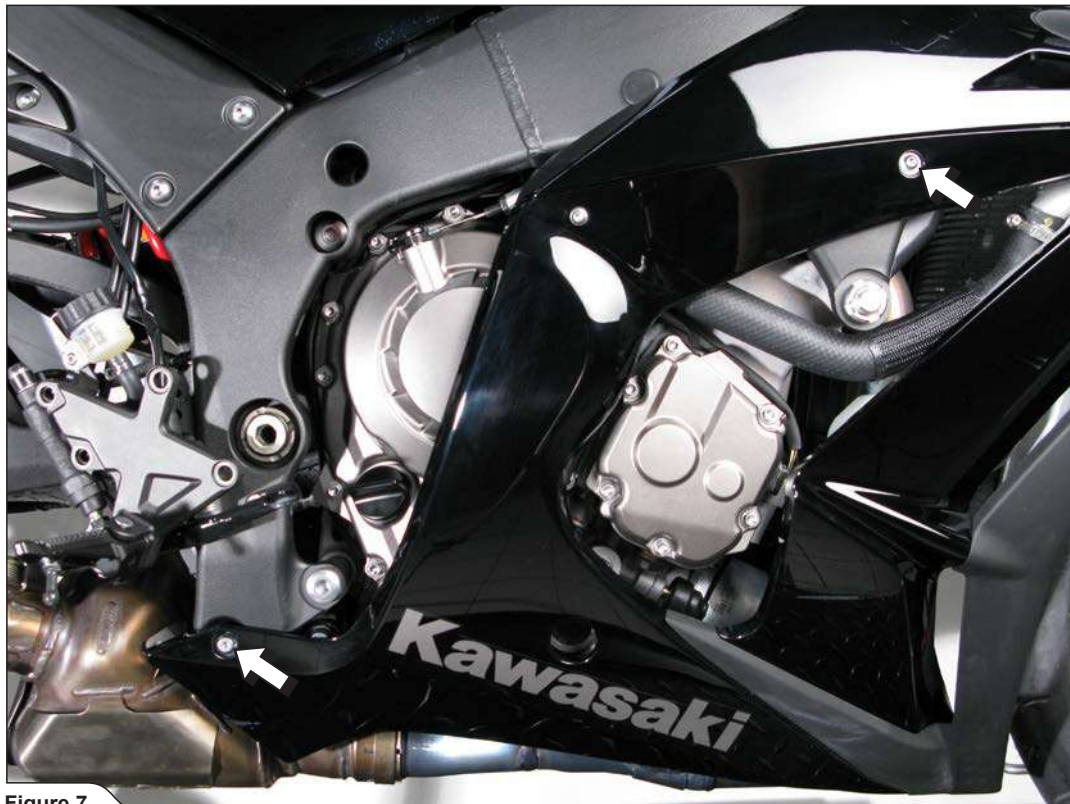

Figure 7
7. **For optional link pipe only:** unscrew the two marked bolts and partially remove the cowling (Figure 7).